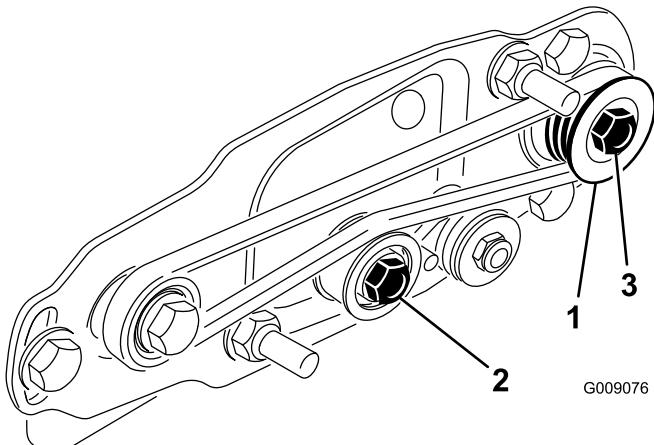
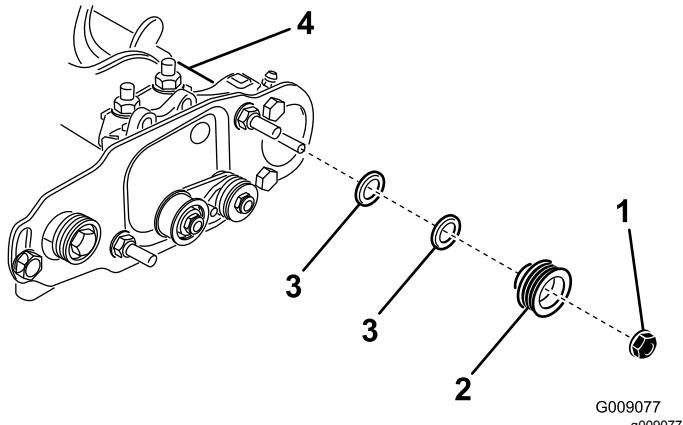

Figure 39
Figure 40
1. The driven pulley (at the roller-brush shaft) can move in or out (Figure 39).
2. While rotating the reel, which rotates the drive pulley, pry the belt off the drive pulley (Figure 39).
3. Remove the locknut securing the driven pulley to the brush shaft (Figure 39 or Figure 40).
4. Remove the driven pulley from the shaft (Figure 40).
5. If the pulley needs to move out, add one 0.8 mm (0.032 inch) thick spacer (Figure 40). If the